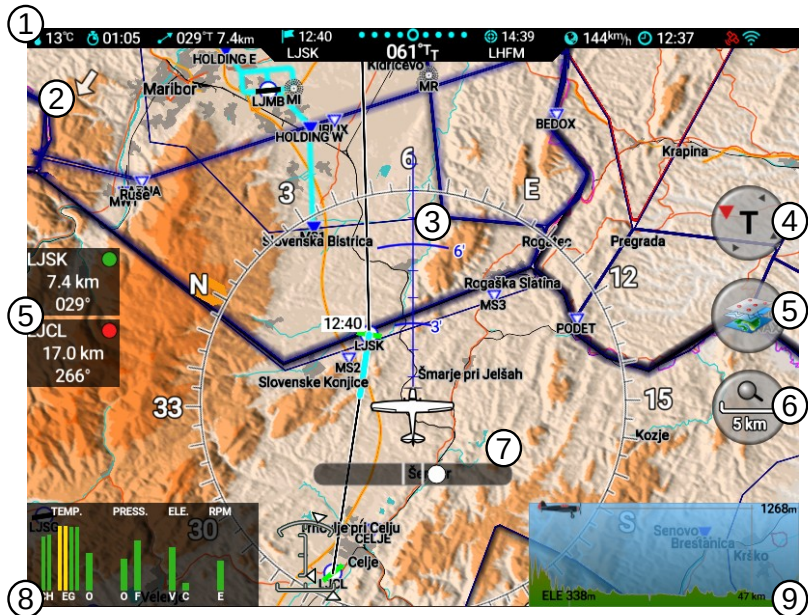
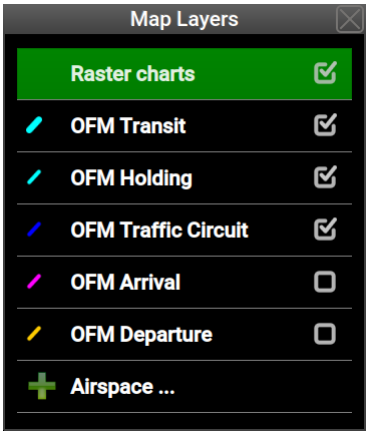

Figure 6: Illustration of the navigation screen.
Figure 9: The Map Layers window.
Figure 6 illustrates an example and defines the main elements of the screen.
Certain map layers can be enabled or disabled and some of them can be tuned. Touching the map layers button (Figure 6, option ⑤) opens a window shown in Figure 9.